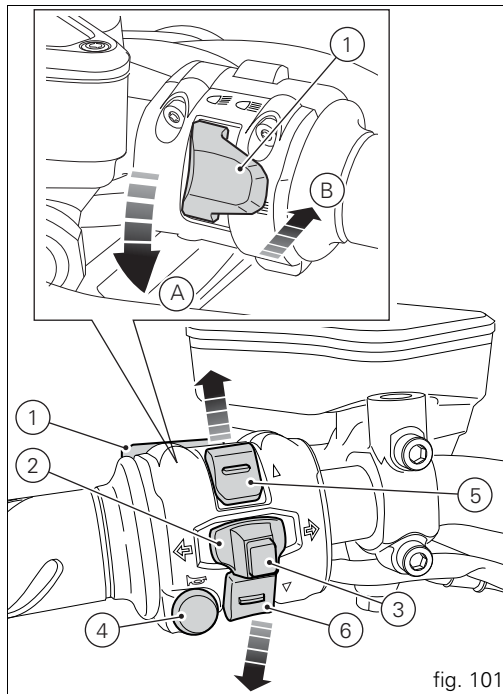

fig. 101
LH switch (fig. 101)
- 1) Dip switch, light dip switch, two positions (fig. 101):
- 2) Button  = three-position turn indicator (fig. 101):